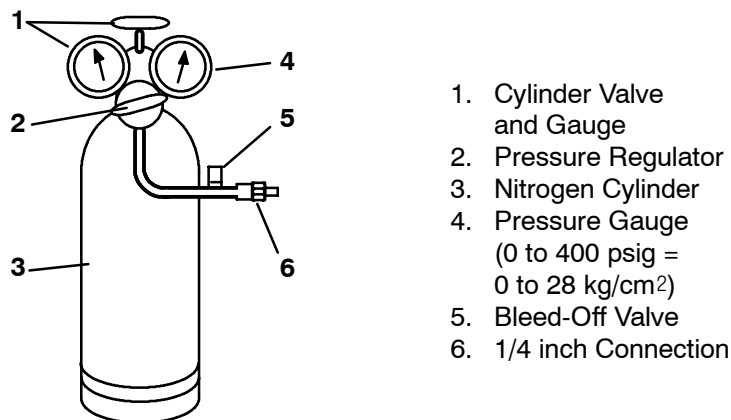

Figure 8-22. Typical Setup for Testing High Pressure Switch
WARNING: Do not use a nitrogen cylinder without a pressure regulator. Cylinder pressure is approximately 2350 psi (165 kg/cm²). Do not use oxygen in or near a refrigerant system as an explosion may occur. (See Figure 8-22)
- Connect switch to a cylinder of dry nitrogen. (See Figure 8-22)